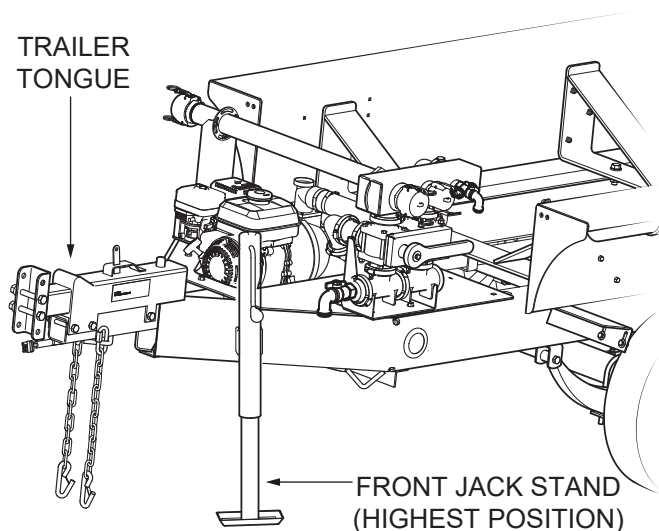

Figure 22. Raise The Trailer Tongue
2. Place the unit on a level surface and raise the trailer tongue by placing the front jack stand in the highest position (Figure 22).